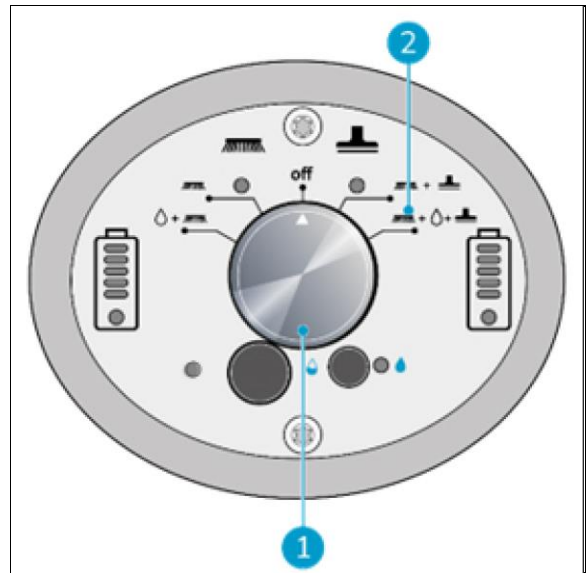

Figure 24
2. Select the brush, cleaning solution and vacuum mode on the control panel. (Figure 24, pos2)